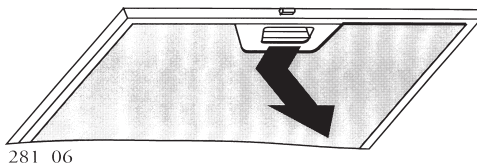

Fig.1
1. Press against the metal catch to release the spring catch as illustrated in Fig. 1.
1. First remove the metal grease filters as illustrated in Figure 1.